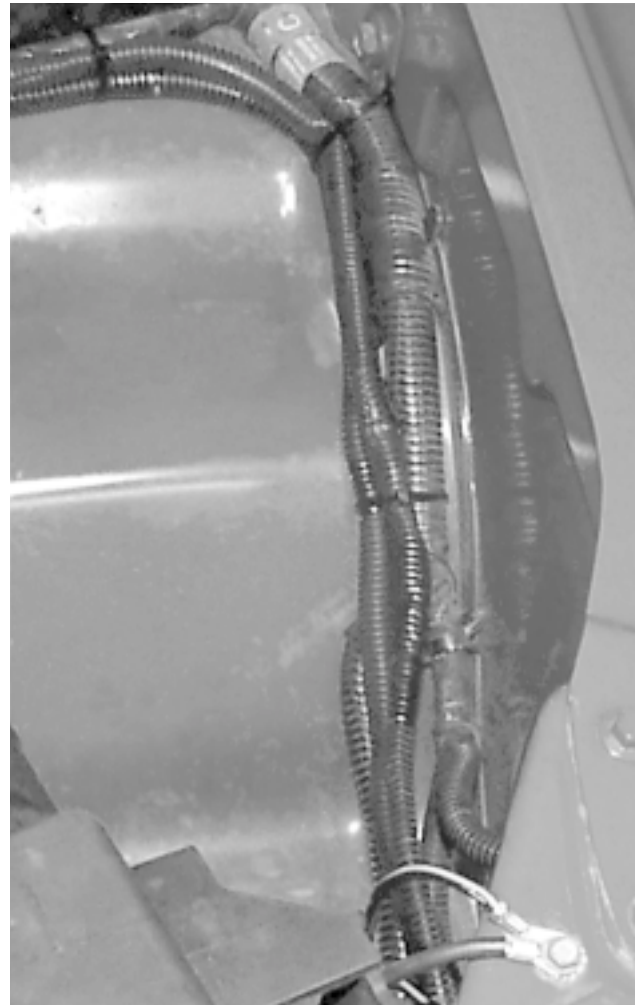

Fig 3-e
- G. Route the harness extension back and along the firewall. Use the supplied plastic ties to secure it away from any hot or moving parts. (See Fig. 3-e.)